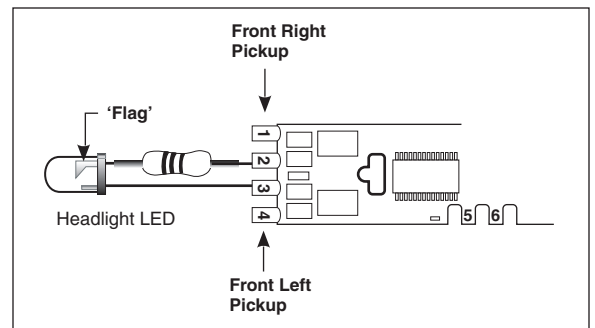

Figure 1
21. Locate the LEDs you cut from the Kato factory board in Step 5. Cut one leg of each LED so that only about 1/4" remains. Cut one leg each of two 1000 (1K) ohm resistors so that only about 1/4" remains. Solder the short legs of the LED and resistor together so that each resistor is in series with each LED and there is a maximum amount of length left to each side. Save the scrap leads that were cut from the LED and resistor. Your LED assemblies should look like those in Figure 1.